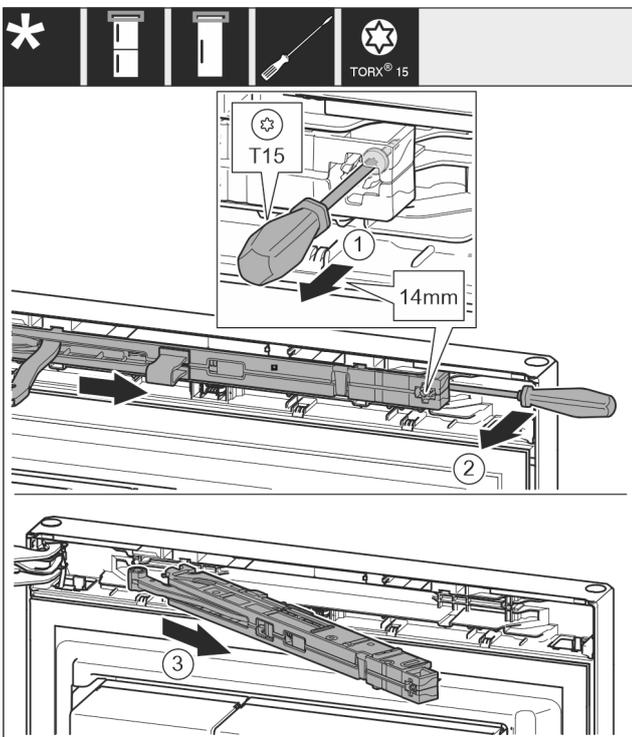

Fig. 12
- ▶ Undo the soft stop mechanism screw with a T15 screwdriver approx. 14 mm. Fig. 12 (1)
- ▶ Insert a screwdriver behind the soft stop mechanism on the handle side and rotate the unit forwards. Fig. 12 (2)
- ▶ Remove the soft stop mechanism. Fig. 12 (3)